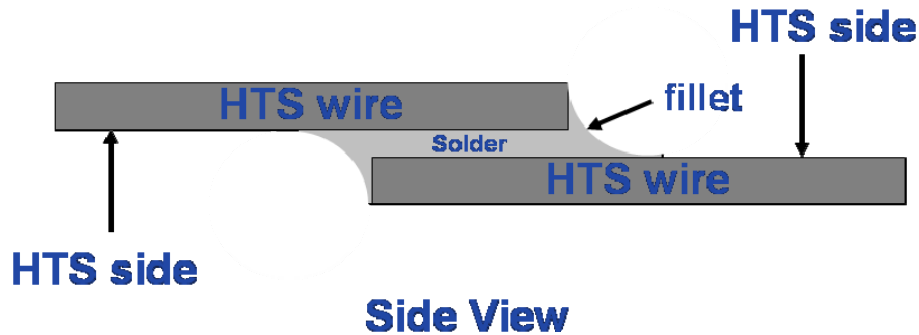

Figure 2. Overlap Splice Joint Construction
A simple overlap joint can be used to join two 2G wires with minimal electrical resistance. This configuration typically joins the HTS sides of two wires to produce the lowest resistance joint. Figure 2
- h. Ensure that each of the HTS tape ends is filleted by solder (as shown in Figure 2) to help prevent separation during bending operations.